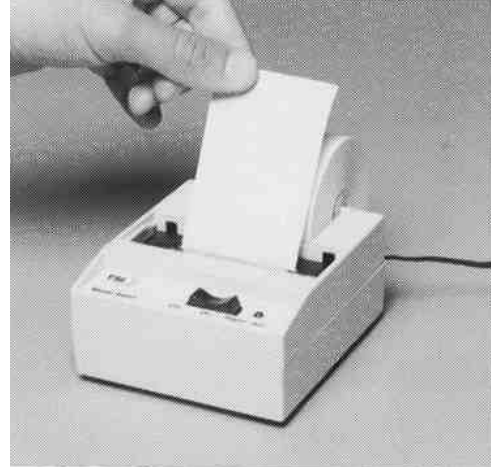

Figure VIII-8. Pulling paper through the printer
Step 6. Now pull the paper through the printer until several inches are exposed (fig. VIII-8).